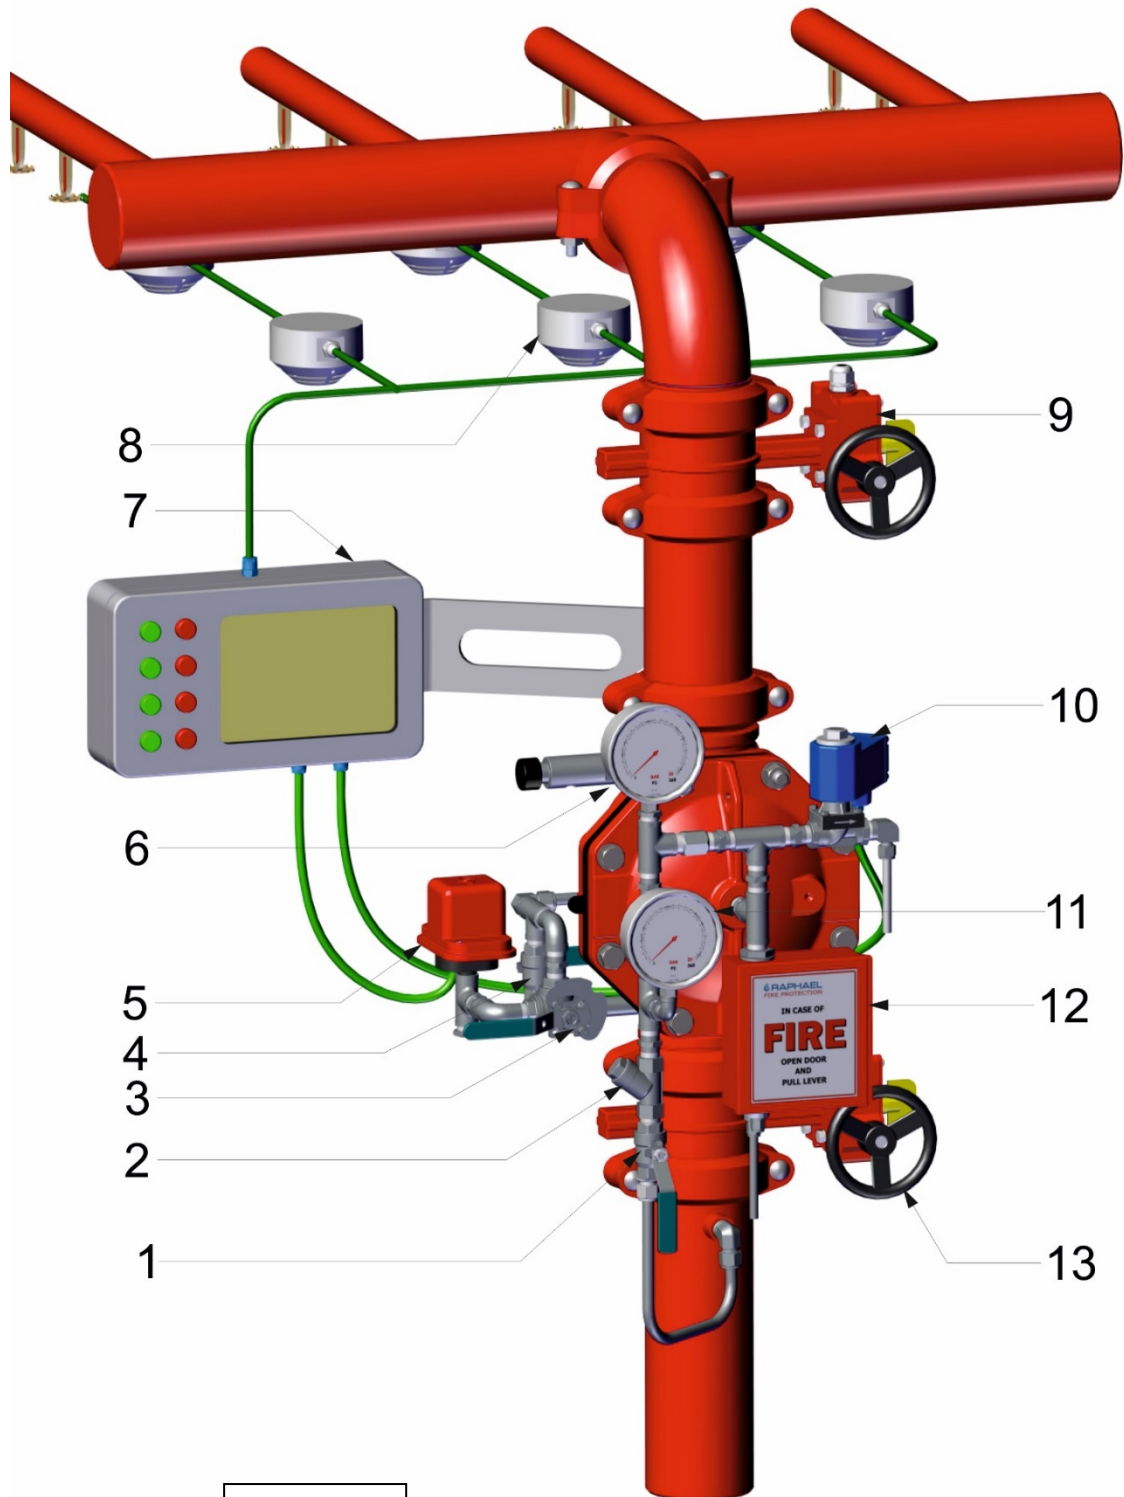

Figure 2
When one or more of the electric smoke/heat sensors is tripped, it energizes the 2-way solenoid (7) through the control panel (7 figure 2). Getting tripped, this solenoid drains the FDV’s Control chamber to the atmosphere. The solenoid drain flow overcomes the orifice (8) flow into the deluge control chamber and cause the FDV valve to open. The FDV deluge valve admits water into the open type of spray sprinklers pipeline/s.
Installation (reference - figure 2)
8. All connections to water supply, should be done in accordance with figure 2
Installation parts list (Reference Figure 2)
(Reference drawing - figure 2)